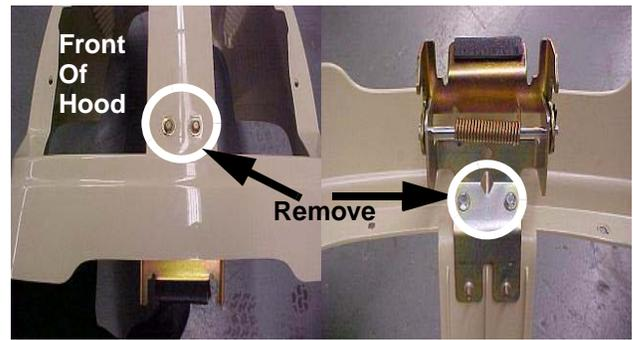

FIGURE 4
8. Remove the (4) four screws that secure the hood latch assembly to the hood. (2) two screws are located in the front & (2) screws are located on the inside of the hood to secure the latch assembly. See Figure 4.
2. Install the latch assembly onto the new hood using the (4) four original screws removed in step 8 of the Removal Instruction section. Refer to Figure 4 for location reference. The (2) two yellow dicromate color screws mount through the front of the hood under the grill area & thread into the latch assembly plate. Torque to 35 - 50 in. lbs. Install the (2) two remaining screws securing the hood latch plate to the hood from the inside. Tighten but DO NOT over tighten.